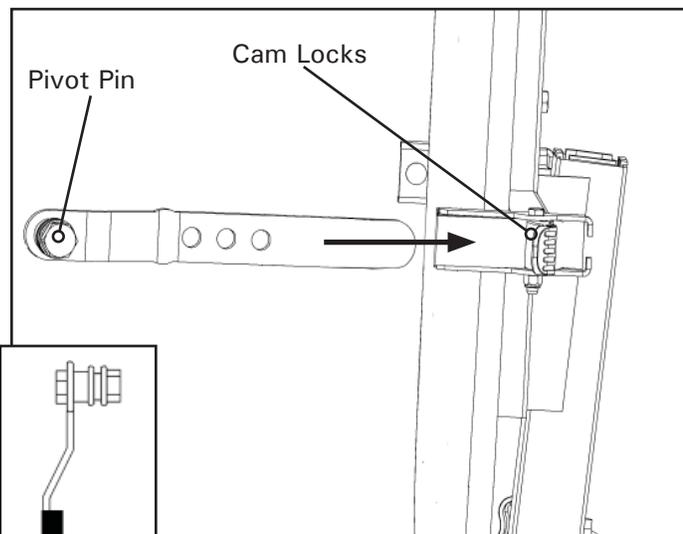

Figure 4
- Open the Cam Locks on each side of the Bed Mat (Figure 4).